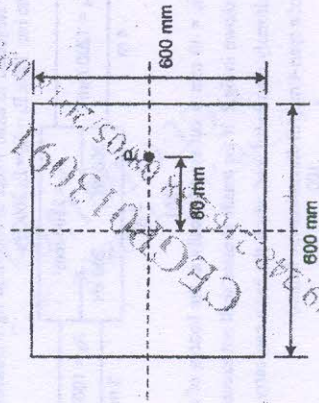

Fig. 7
- b) A short masonry pillar 600 mm x 600 mm in section. The pillar carries an eccentric load of 1000 kN acting at an eccentricity of 80 mm from the longitudinal axis as shown in fig. 7. Find the maximum and minimum stresses on the section. [7]